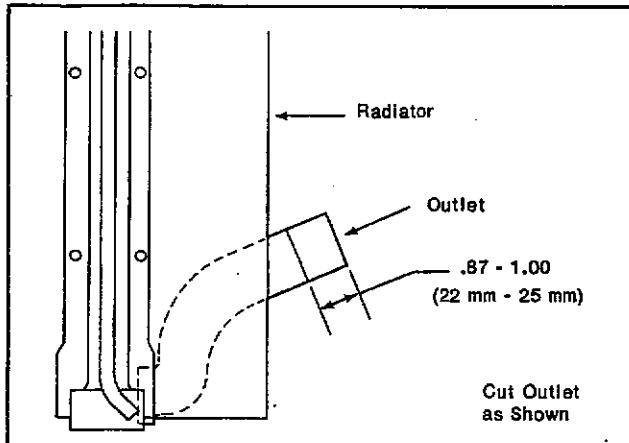

Figure 16
- Remove the standard timing pulley (Generator Drive), the drive belt and the four (4) pulley mounting bolts.
- Remove the standard radiator hose, cut radiator outlet as shown in Figure 16, and install the new pre-formed hose. Refill radiator.